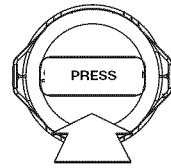

Fig. 23
- Replace the bump cap by aligning the tabs of the bump cap with the tab lock windows of the outer spool and press down firmly until both tabs snap back into place. (Fig. 23)